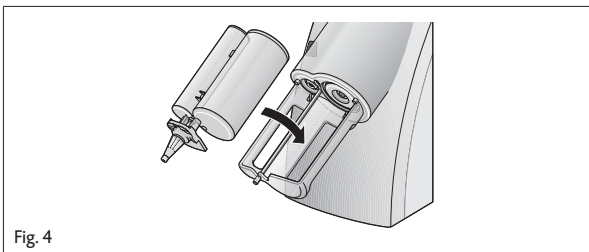

Fig. 4
4. Insert the cartridge into the MixStar-eMotion (Fig. 4). A brief acoustic signal confirms the correct insertion of the cartridge.